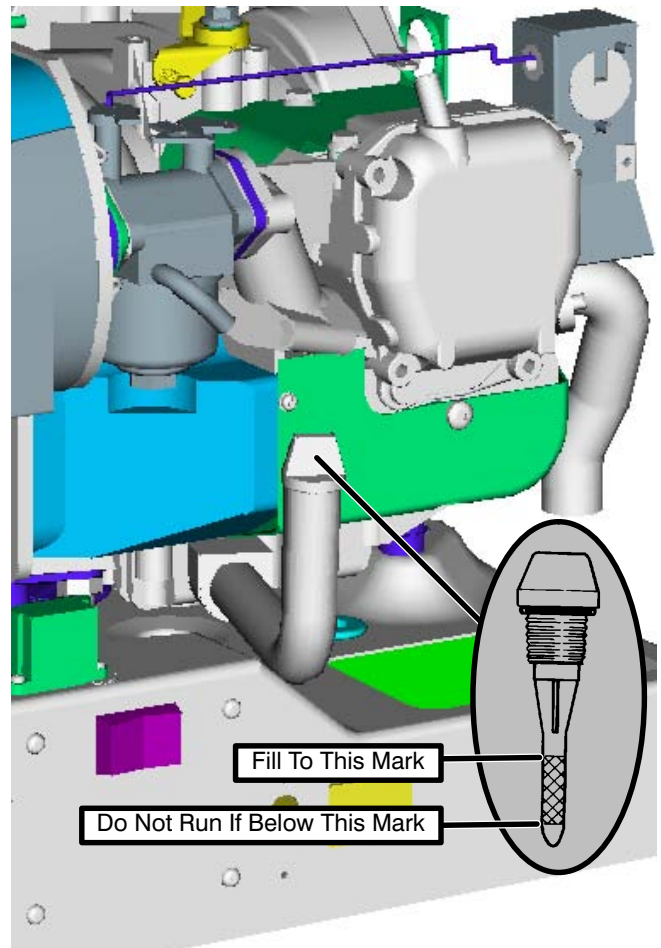

FIGURE 10. CHECKING ENGINE OIL LEVEL
1. Unscrew the oil fill cap and wipe oil off the dipstick (Figure 10). Reinsert the dipstick, **but do not screw the cap down**. Remove the dipstick again and check the oil level on the dip stick.
1. Run the engine until warm, stop it and remove the oil fill cap (Figure 10).